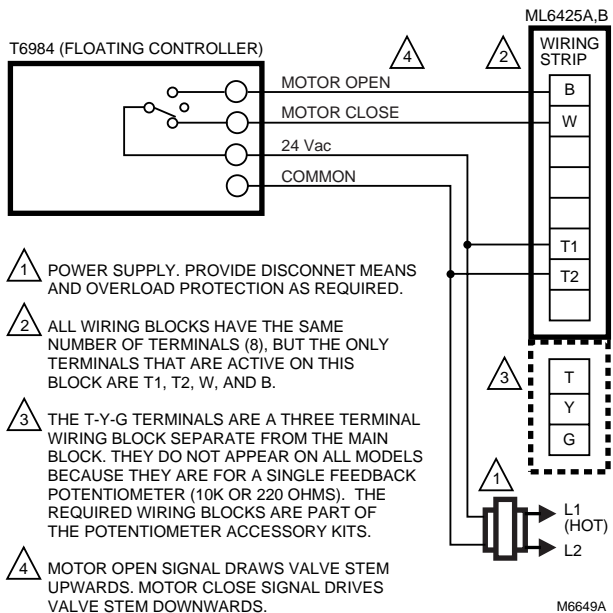

Fig. 7. ML6425 wiring.
2. Using the wiring diagram in Fig. 7, connect power and control wires. Make sure that all wiring is correct.